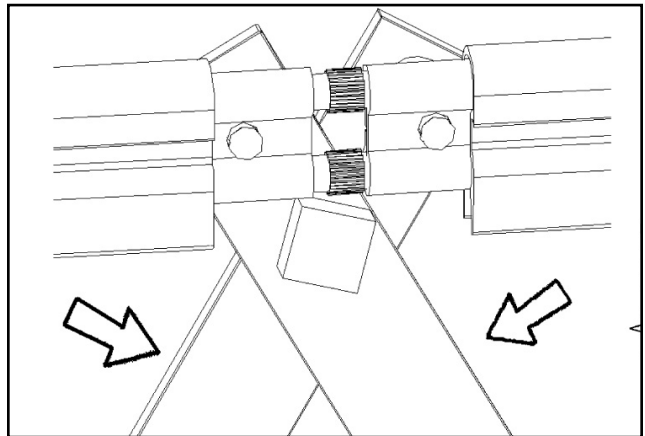

Figure 23-1 Joining Pinned Conductors
- A. For joining pinned conductor bars, see **Figure 23-1**.